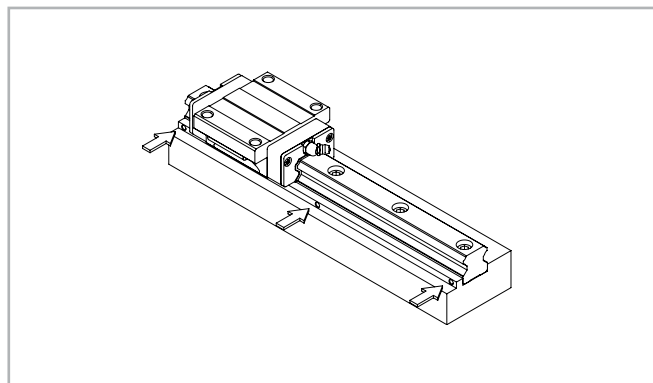

Fig. 56
(3) Tighten the thrust bolts on the guide rail until there is close contact on the side stop surface (see fig. 56).